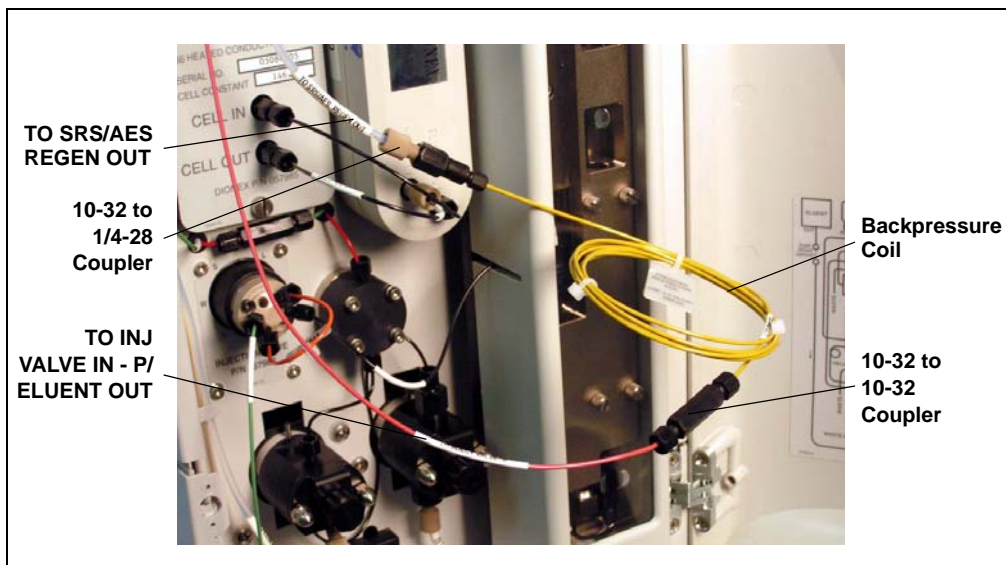

Figure 72. Backpressure Coil Connections for Conditioning the EluGen Cartridge and EPM with Carbonate/Bicarbonate Eluent
1. Disconnect the **TO INJ VALVE IN - P/ELUENT OUT** line from port **P (2)** on the injection valve.
5. Connect the **TO SRS/AES REGEN OUT** line to the 10-32 to 1/4-28 coupler (see Figure 72).
NOTE The backpressure coil connection in Figure 72 is temporary; it is required only during the EPM and EluGen cartridge conditioning procedure described in the next section.